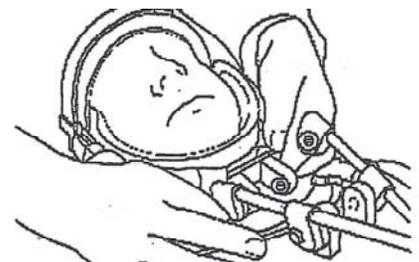

Figure 6: Attaching the facemask assembly to the vest.
- Remove the bolts from the rotatable serrated connectors attached to the facemask and separate the two parts (FIGURE 6) of the connector. Slide the anterior upright rods into the connectors attached to the vest and reconnect proximal connectors with the bolts. Tighten all four bolts making sure the correct cervical alignment is achieved. Lifting the chin slightly will provide distraction.